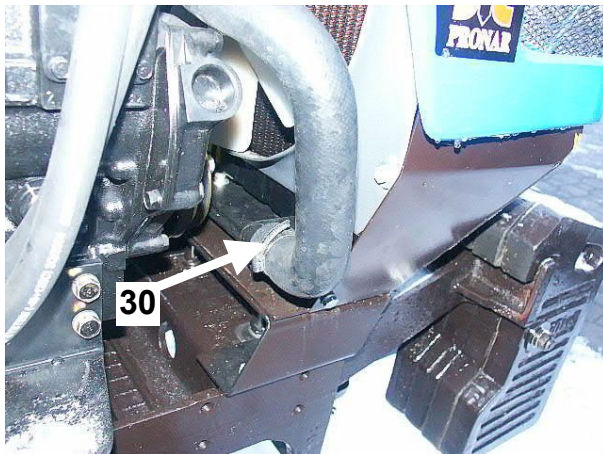

Fig. E-24 Here drain the coolant from the cooler (30).
To drain the coolant first loosen the band clip then remove the rubber pipe from the cooler stub (30) Fig. E-24.